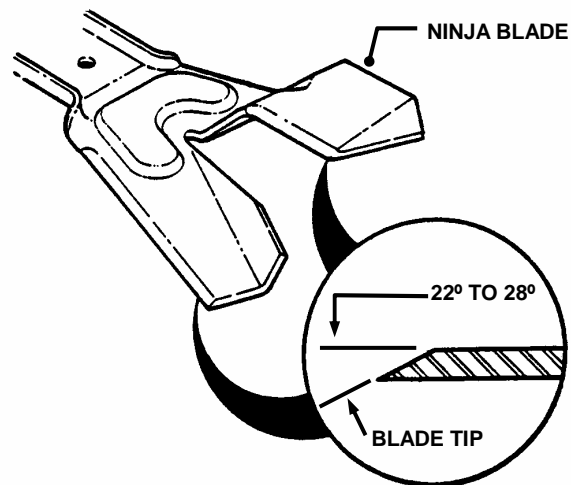

FIGURE 4.15
5. Sharpen all cutting edges of the Ninja recycling blade at an angle of 22 to 28 degrees for optimum performance. See Figure 4.15.